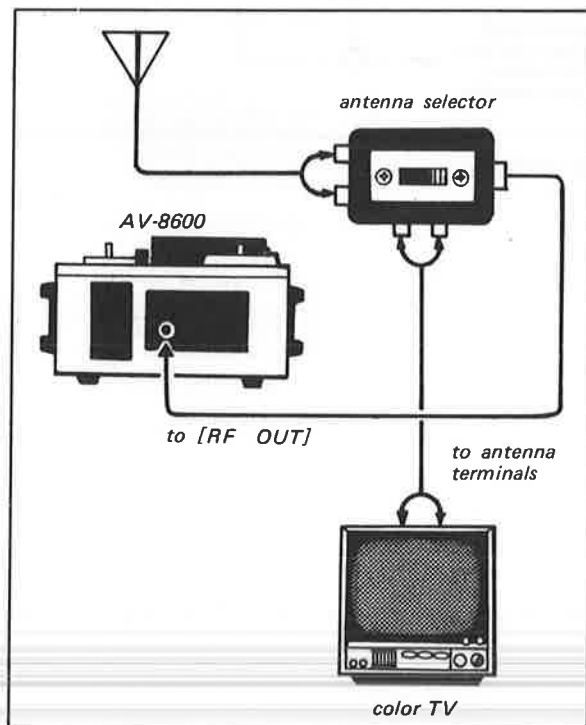

Fig. 1-1. RF unit connections
2. Insert the RF Unit (RFU-103FW or 104FW which ever channel is inactive in your area) into the compartment and connect the Videocorder, Antenna Selector and TV receiver as shown in Fig. 1-1.